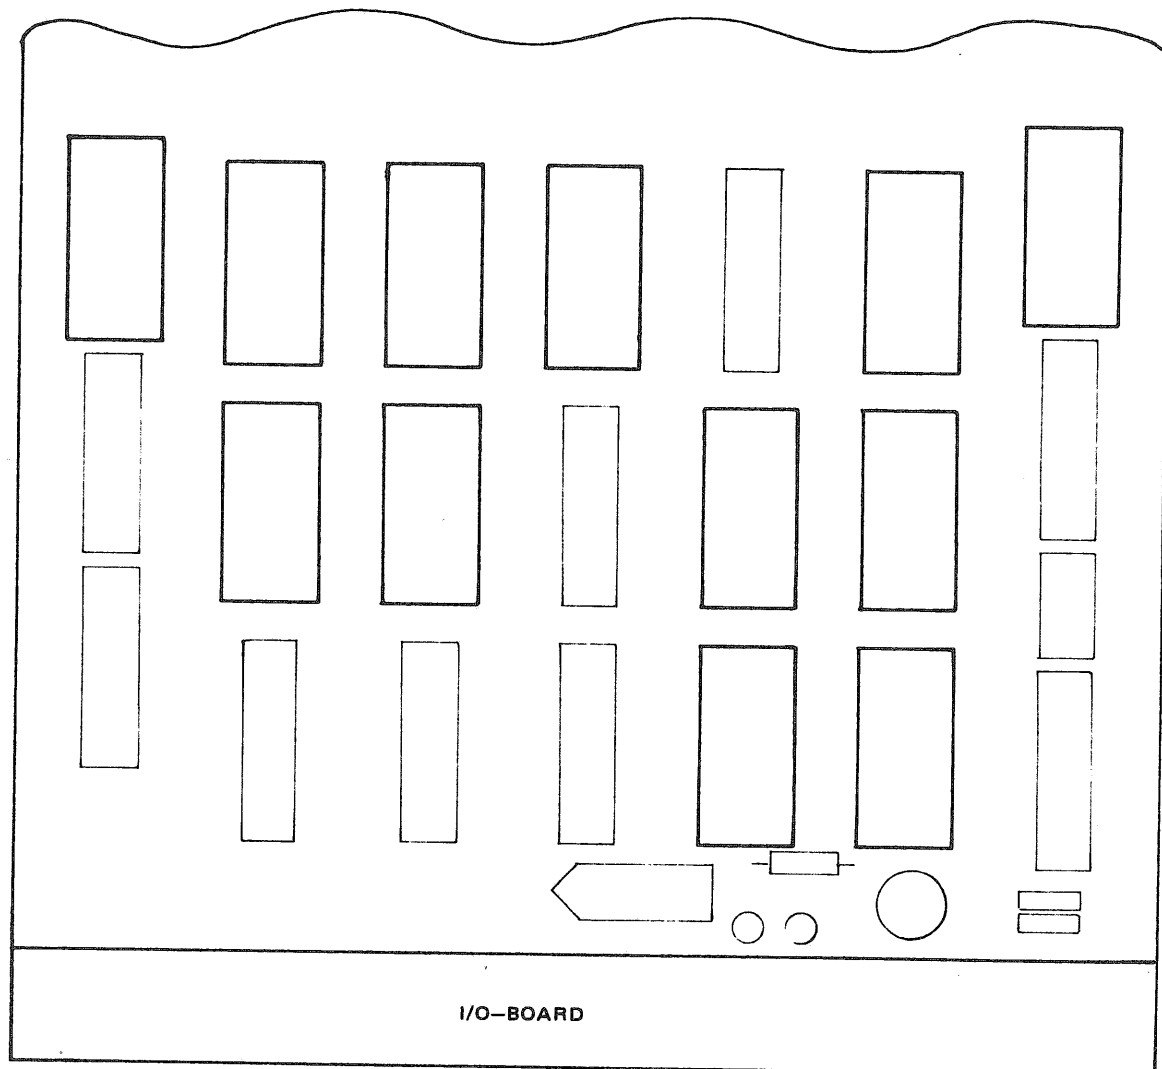

Figure 4.3: Terminator Chips
- installing terminator chips on the I/O board. (Refer to Figure 4.3.)